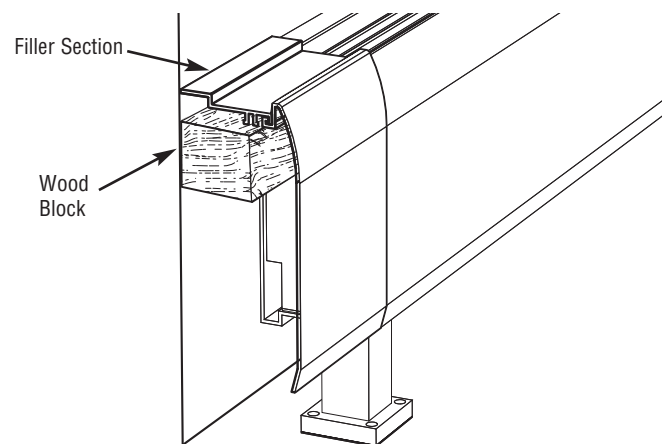

Figure 3 - Filler Section Support (Slim Line Shown)
3. If the filler section is to be mounted between a heater and a wall, a block of wood to support one end of the filler should be attached to the wall level with the top the heater. See Figure 3.